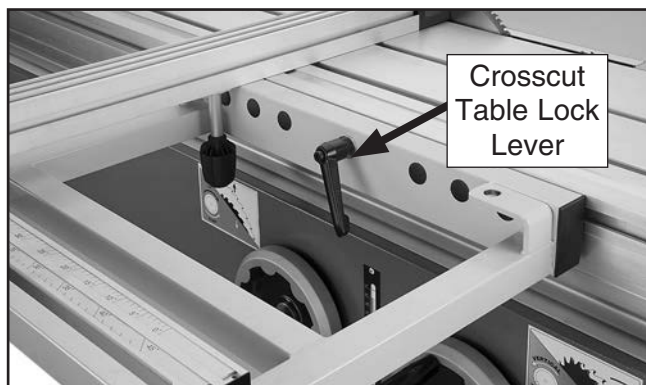

Figure 110. Location of crosscut table lock lever.
1. Move crosscut table and fence to front of sliding table, and lock them in place with crosscut table lock lever (see **Figure 110**).